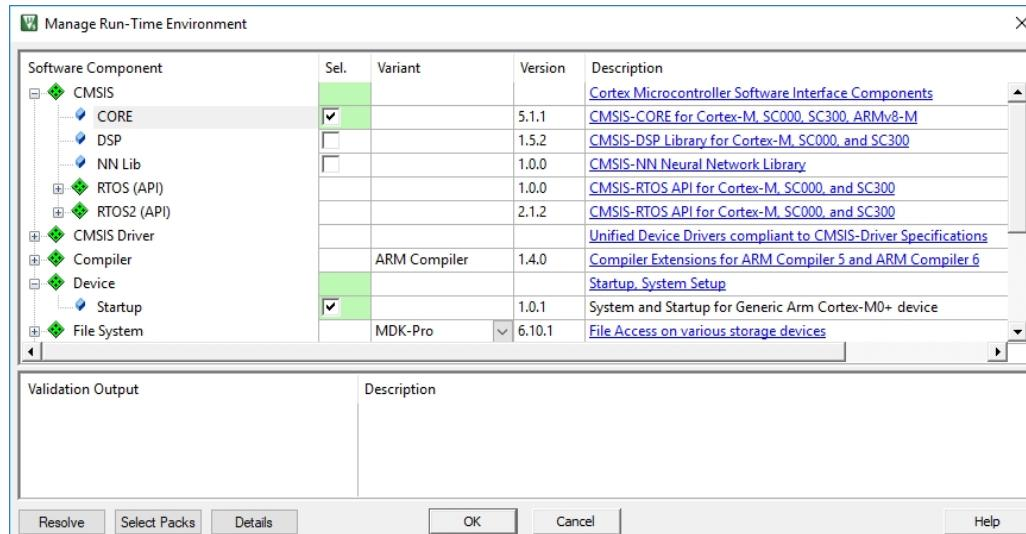

Figure 24. Manage Run-Time Environment for C Simulation
- When Keil µVision IDE launches the Manage Run-Time Environment window, add the following Keil ARM-MDK software components to the project, as shown in Figure 24.